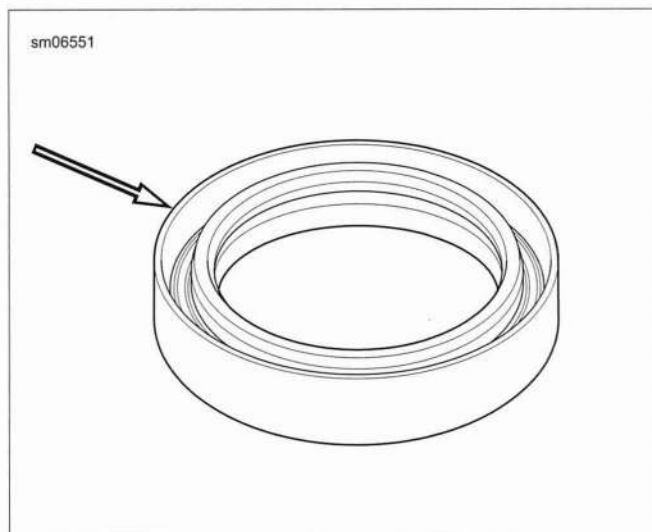
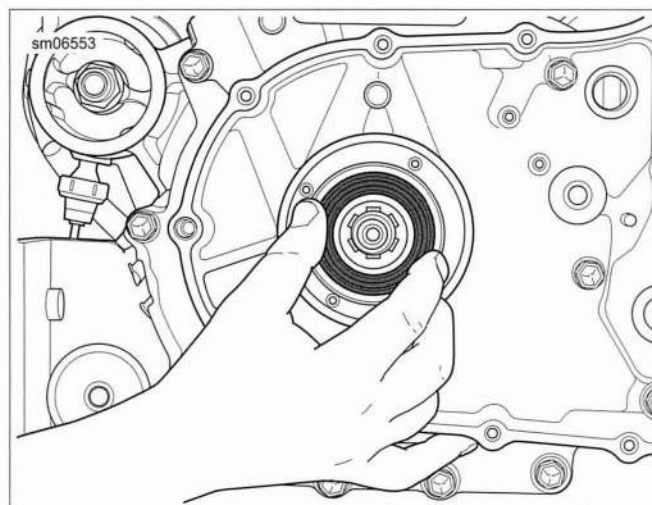

Figure 3-150. Open Side of Seal Faces Out
Figure 3-151. Install Spacer and Seal
7. See Figure 3-150 and Figure 3-151. Install spacer in I.D. of **new** seal. With the open (lipped) side of seal facing outward, center seal/spacer assembly over bearing bore.